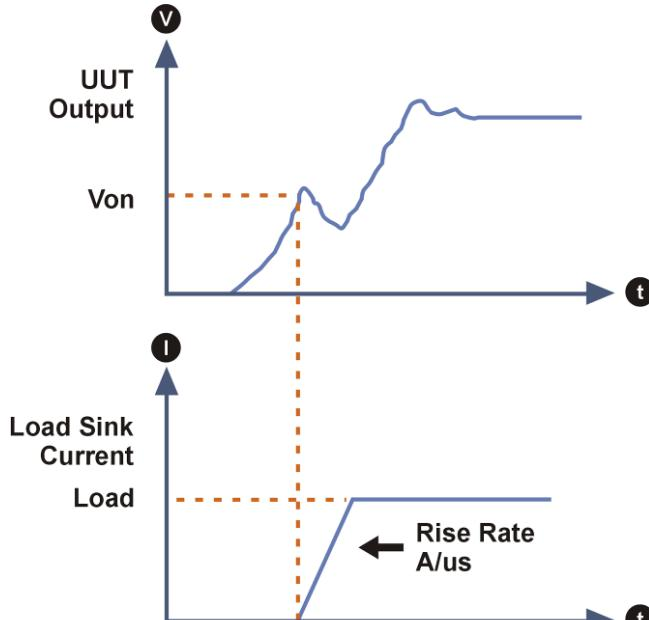
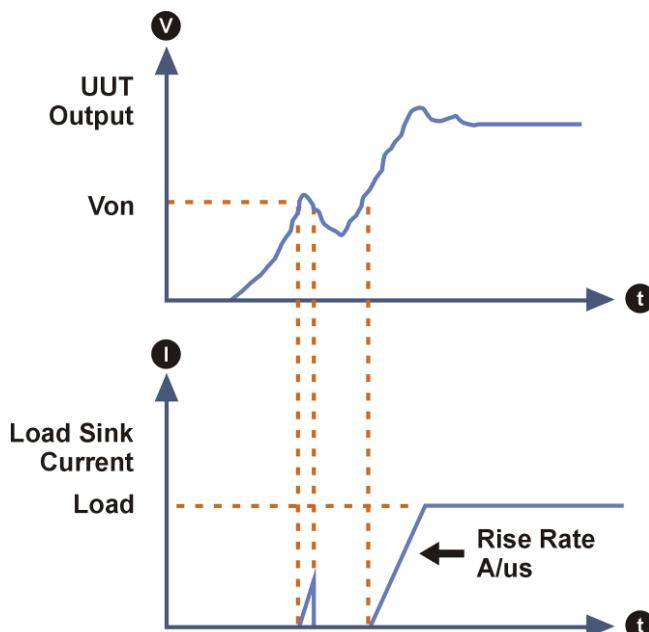

Figure 4-8 Von LATCH ON Current Waveform
Figure 4-9 Von LATCH OFF Current Waveform
**Set Von latch.** There are two operation modes for Von control. Von latch ON means the Load will sink current continuously when it reaches Von voltage. Von latch OFF means the Load will stop sinking current when UUT voltage is under Von voltage. The default setting of Von latch is OFF. Figure 4-8 and Figure 4-9 show the Von LATCH ON and OFF current waveform respectively.